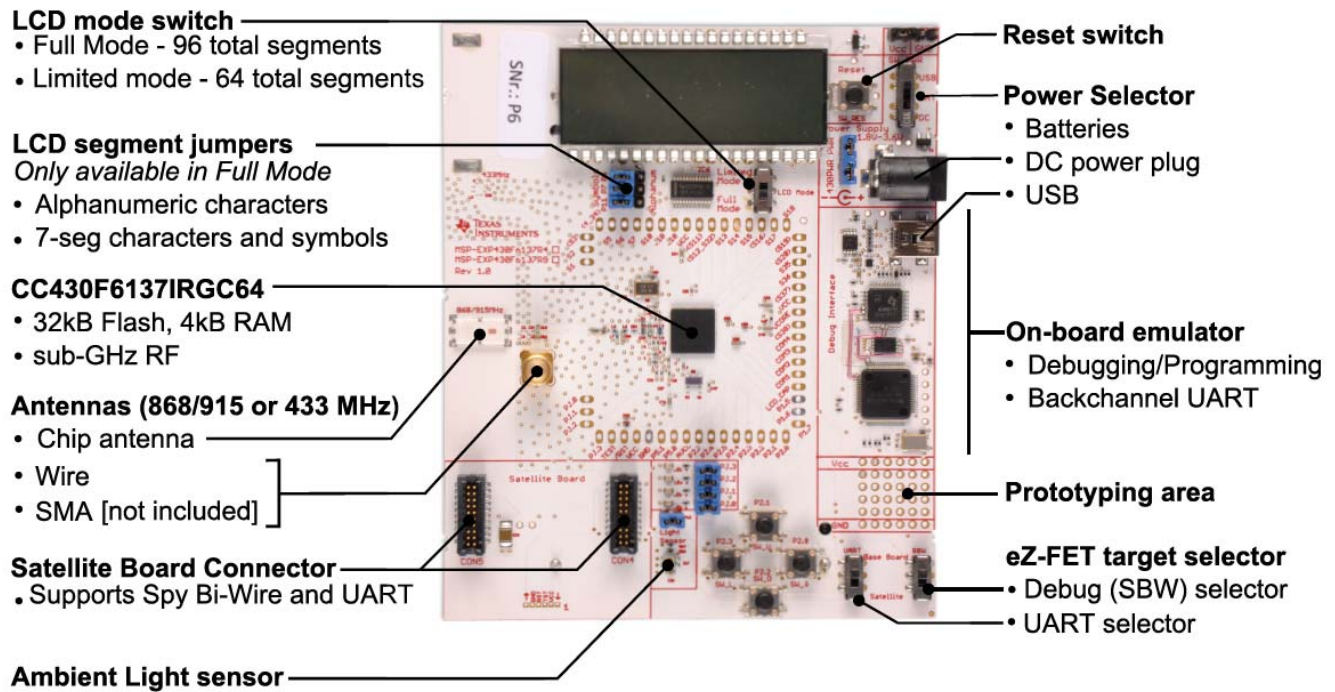
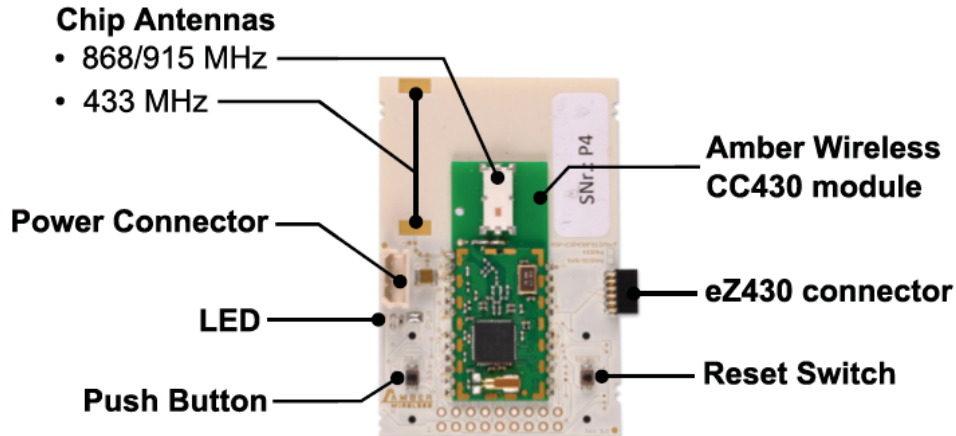

Figure 5. MSP-EXP430F6137Rx Base Board Hardware
Figure 6. MSP-EXP430F5137Rx Satellite Board Hardware
2. The PCBs shown in Figure 5 and Figure 6 are UL flammability rated 94V-0.